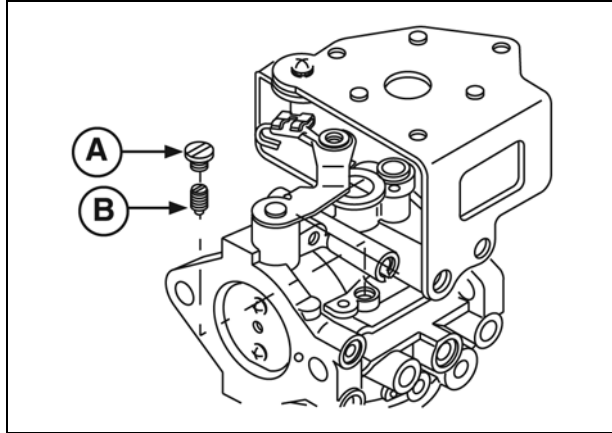

Figure 35
10. Remove idle jet plug (A, Figure 35) and idle jet (B).